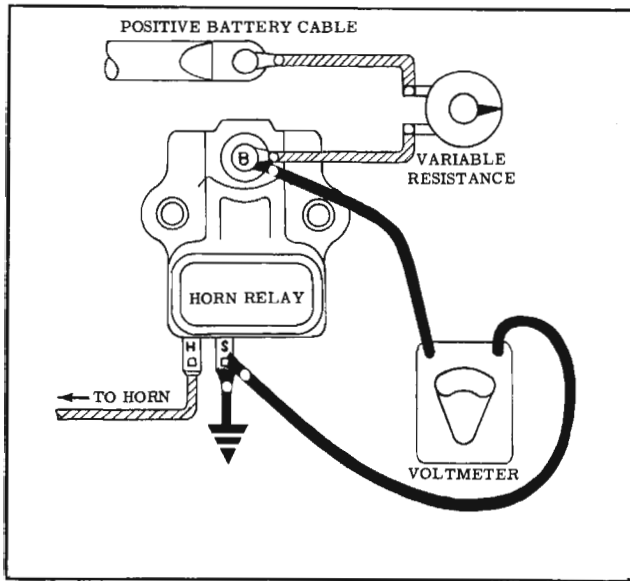

Fig. 14-55 Checking Horn Relay Closing Voltage
2. Connect a variable resistance of at least 10 ohms in series between battery cable and "B" terminal. (Fig. 14-55)